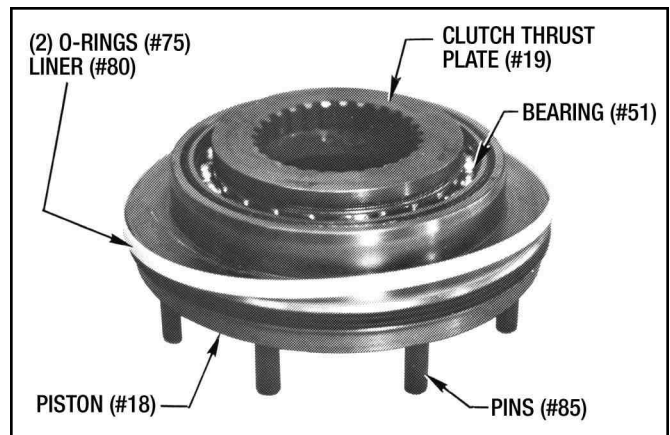

Figure 9.11 - Piston Subassembly
2. Replace O-Rings (#75) and Liner (#80) into the piston grooves. (See Figure 9.11.)